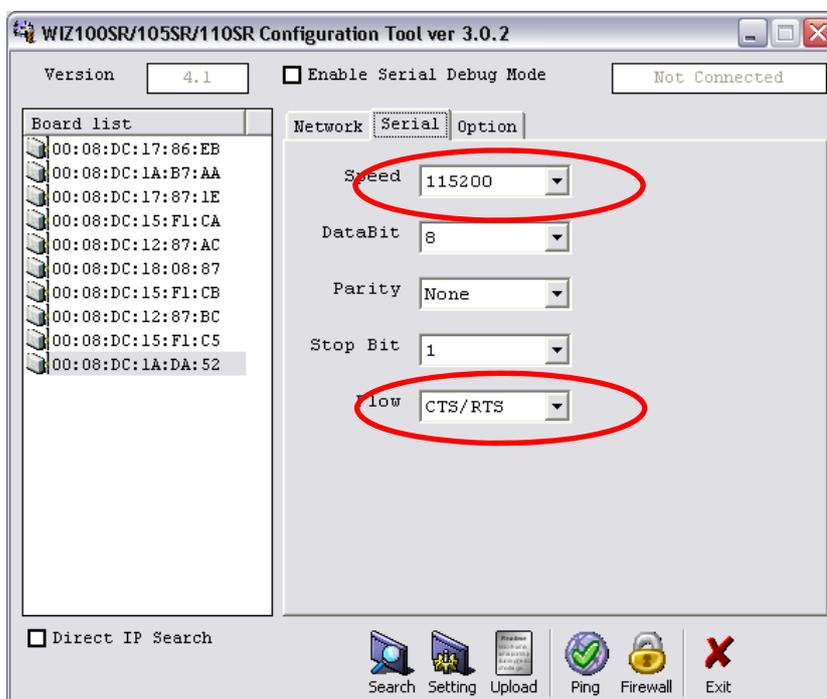

Figure 10
7. Enter values into the highlighted fields on the **Serial** tab as shown in Figure 10 below.